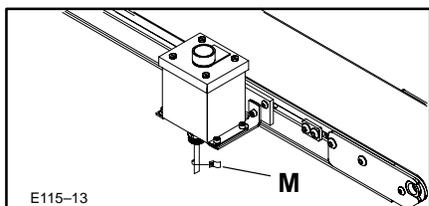

Figure 13: Cable Labeling (Detail provided only on Jog End of Cable)
5. Label both ends of the Jog Cable with the blank Labels (L) provided (Figure 13), using a permanent marking pen.